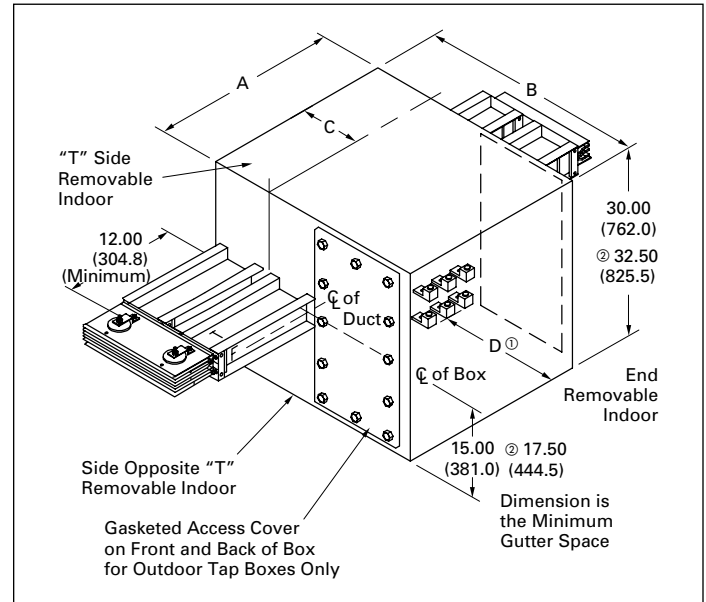

Figure 24.1-25. Center Cable Tap Box
See Figure 24.1-25
- ③ For compression lugs, factory provides provisions only.
- ④ All dimensions shown in Figure 24.1-25 remain constant regardless of system wiring configuration.
- ⑤ Denotes quantity of terminals per ground bus.
- ⑥ Denotes quantity of terminals per phase and 100% neutral bus.
- ⑦ Denotes quantity of terminals per 200% neutral bus option.